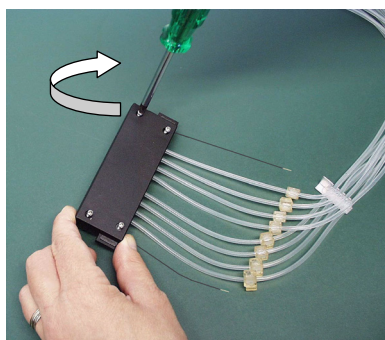

Figure 5-33. Replacing the lower part cover of the dispensing cassette
5. Fasten the four cover retaining screws of the lower part of the dispensing cassette (Figure 5-33).